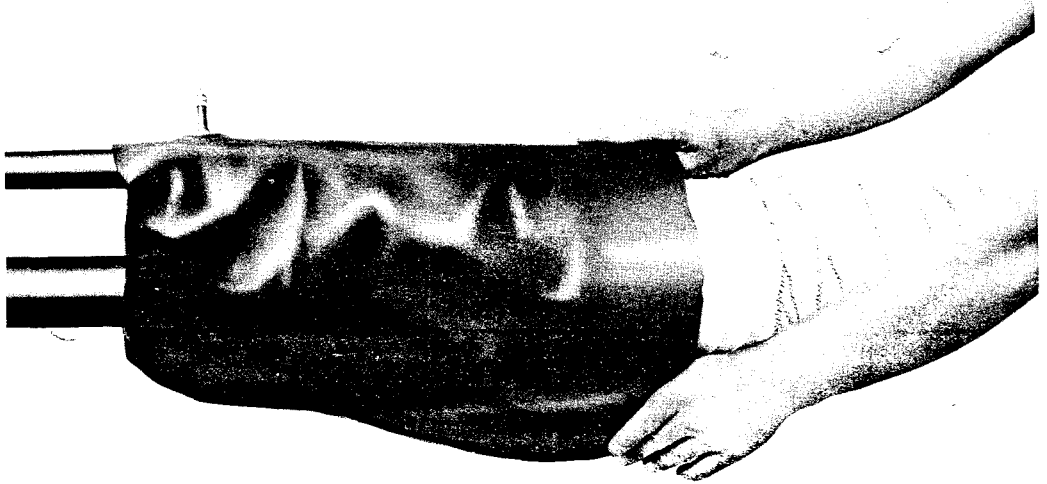

Fig. 21—Reclosing CR Tape Cover
(1) Grasp the CR tape cover on both sides of the splice as shown in Fig. 21 and pull the cover slowly back into place.
(2) Place two layers of 1-1/2 inch B sealing tape on the cable sheath so the outer edge is 1/2 inch inside the end of the CR tape.